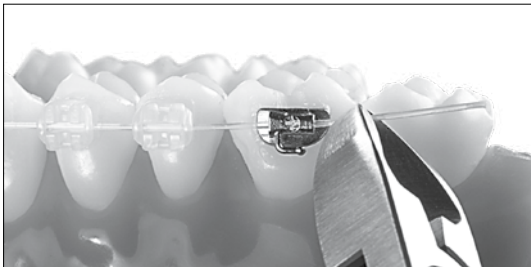

Fig. 3: Cut off the archwire slightly protruding.
- After having placed the archwire end in the buccal molar tubes cut it off slightly protruding (Fig. 3), using a ligature cutter (e.g. REF 014-151-00), not a distal cutter.